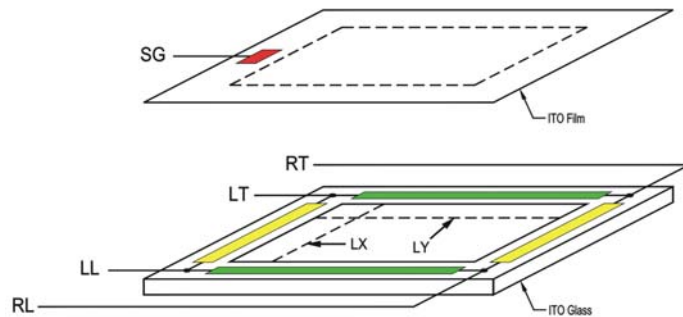
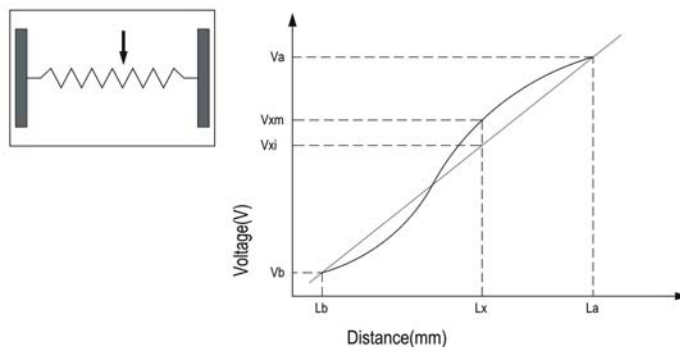

Figure 10-1
Figure 10-2
Step 6: measure the voltage differences between RT and LT (or RT and RL) (Fig 10-1) (Fig 10-2)